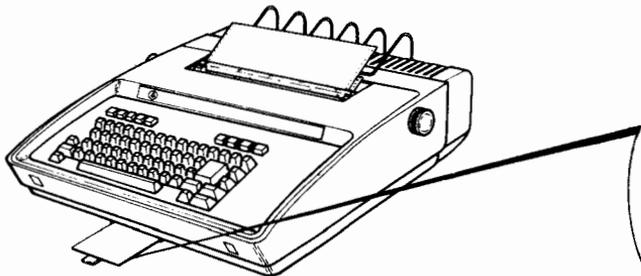

Fig. 4 - Directory Card
3.07 Remove the pull out directory card and record the nonstandard options incorporated in the terminal on the underside of the card. Check the appropriate square and briefly describe the enabled option(s) (Fig. 4).